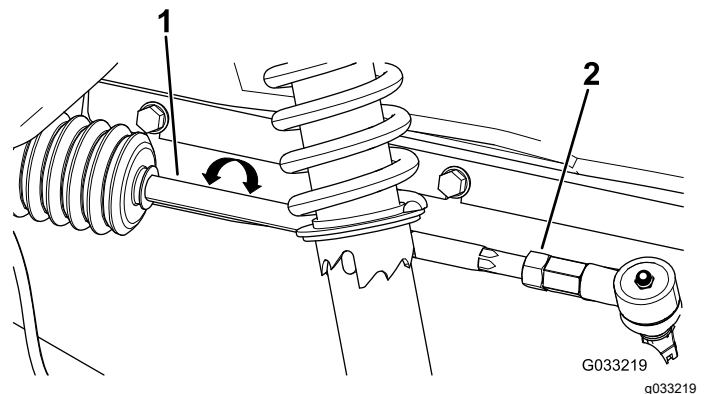

Figure 58
2. If the measurement does not fall within 0 to 6 mm (0 to 1/4 inch), loosen the jam nuts at the outer end of the tie rods (Figure 58).